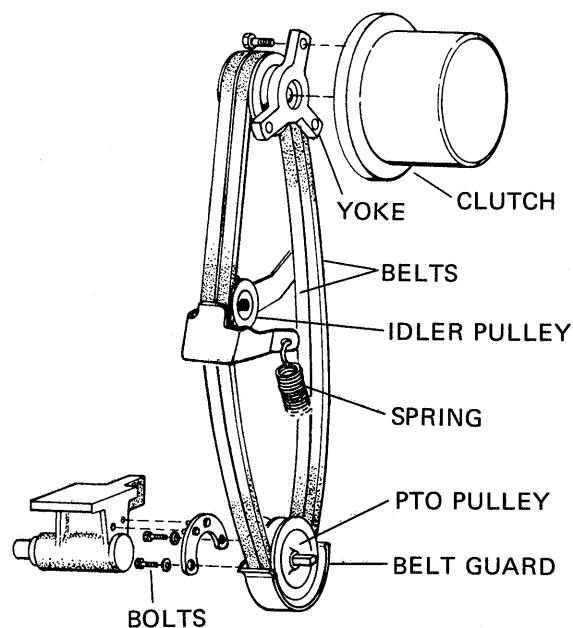

FIG. 6
There are two PTOs on your tractor. One is located under the frame of the tractor and is to be used for the cutting attachment and rotary tiller. This PTO has a disengagement lever located on the RH side of the tractor. It is shown in the picture in the DIS-engaged position. It should be in this position whenever it is not in use. (see Fig. 6)
PTO BELT REMOVAL – To remove the belt: (see Fig. 6)
1. Follow the steps to remove the Power Take Off belts shown in Fig. 6.
2. Attach the Power Take Off belts. (see Fig. 6)